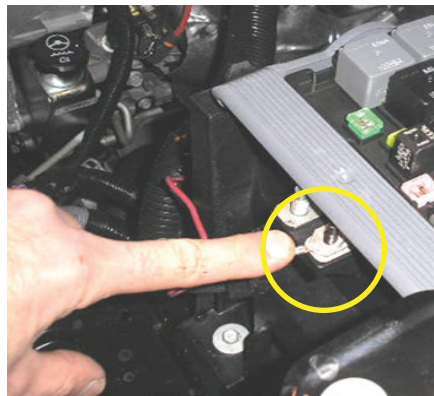

Figure 2
2. Pull the trailering harness wire down (Fig. 2)
3. Place the terminal on the smaller of the two studs (Fig. 2) in front of the under-hood electrical center and secure with an M6 fastener